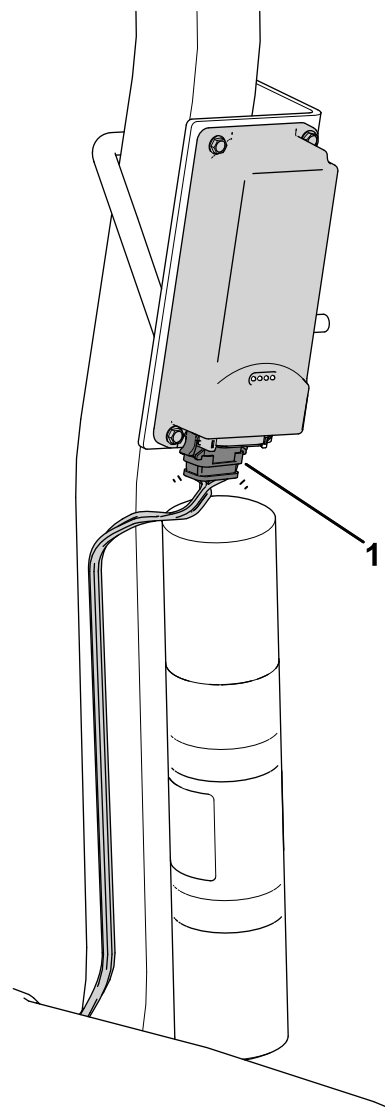

**Figure 11**
2. Use a U-bolt and 2 flange nuts (3/8 inch) to secure the device bracket to the area above the manual tube on the roll bar (Figure 11).